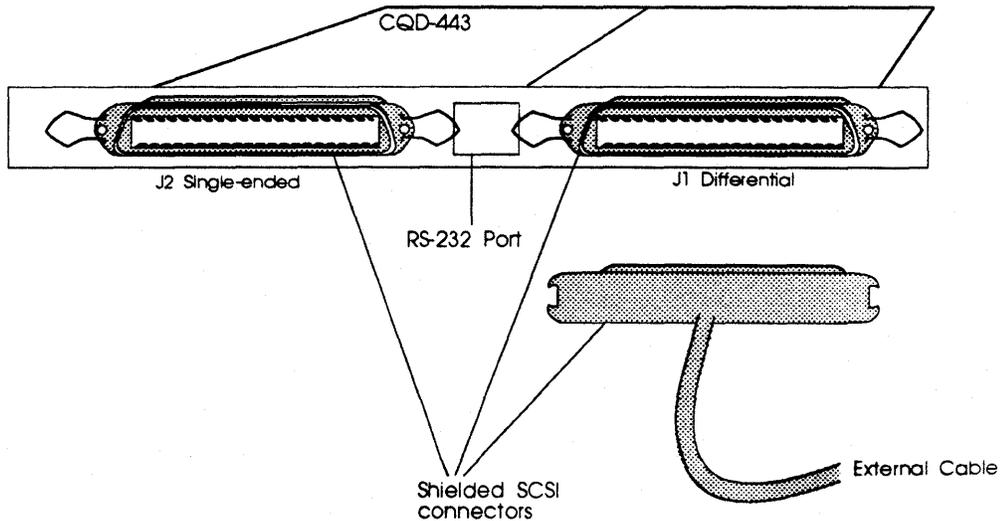

Figure 3-8: CQD-443 shielded connection
For the CQD-443, the connector will be shielded, see Figure 3-8.
- If TERMPWR is needed for the bus, place jumper shunt on W1 or W6 as explained in "SCSI Bus Terminator Power" (see the example in Figure 3-8).